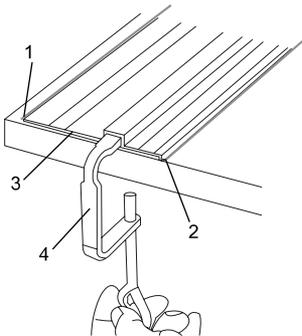

**Fig. 13**
2. Mark the cut line (1) on the workpiece (Fig. 13).